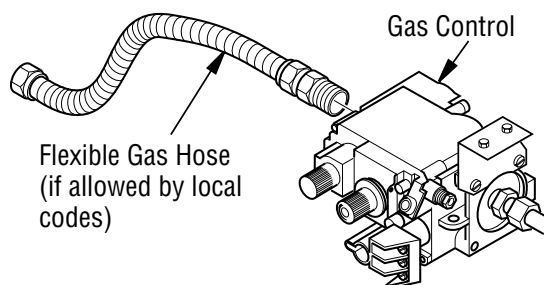

Figure 11 - Attaching Flexible Gas Hose to Heater Gas Regulator
1. Apply pipe joint sealant lightly to male threads of gas fitting (provided). For Remote models connect approved flexible gas hose to inlet side of gas control (see **Figure 11**).